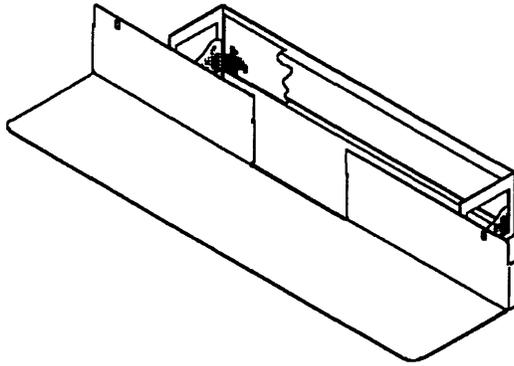

Figure 1-9. Rear Ground Plate Assembly P/N 03F4815. (Used if the floor is not raised.)
Step 13. ____ **If the floor is not raised**, install the rear ground plate assembly P/N 03F4815 (see Figure 1-9). Turn the rear casters appropriately to give clearance, and slide the assembly from the rear of the machine. Secure with two screws P/N 1621210. Before securing the screws, push down on the plate to give it maximum contact with the floor.